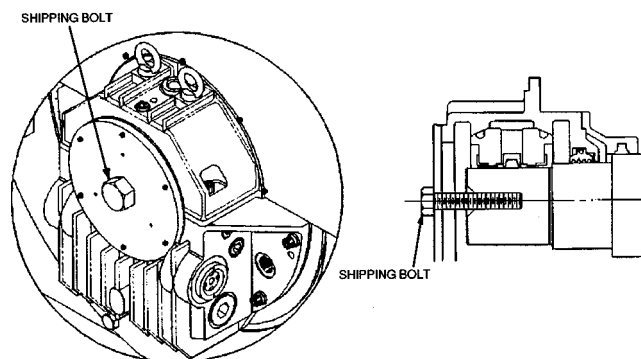

Fig. 24 — Shipping Bolt on Open Drive Motor
7. Press **SELECT** to access the holiday table. The LID screen now shows the holiday start month and day, and how many days the holiday period will last. See Fig. 24.
The motor may be provided with a shipping brace or shipping bolt (normally painted yellow) to prevent shaft movement during transit. It must be removed prior to operation. See Fig. 24.